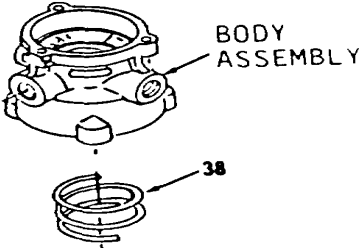

Figure 6-41.
- 5. Install spring (38, Figure 6-41) into body assembly.